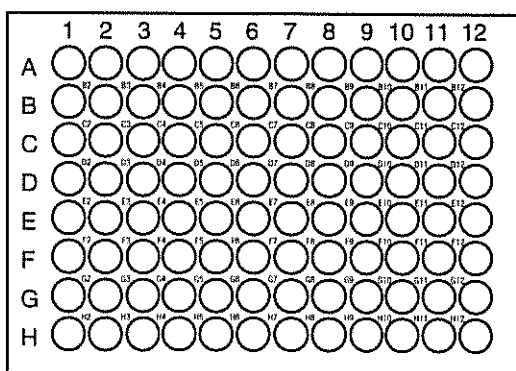

Figure 2. Lettering and Numbering in a 96-Well Plate.
5. Place a clean 96-well reaction plate on top of a sheet of black paper as shown below. Each well is identified by a unique combination of a letter and a number—horizontal rows are identified by the letters A–H and vertical columns are numbered from 1 to 12 (Figure 2).